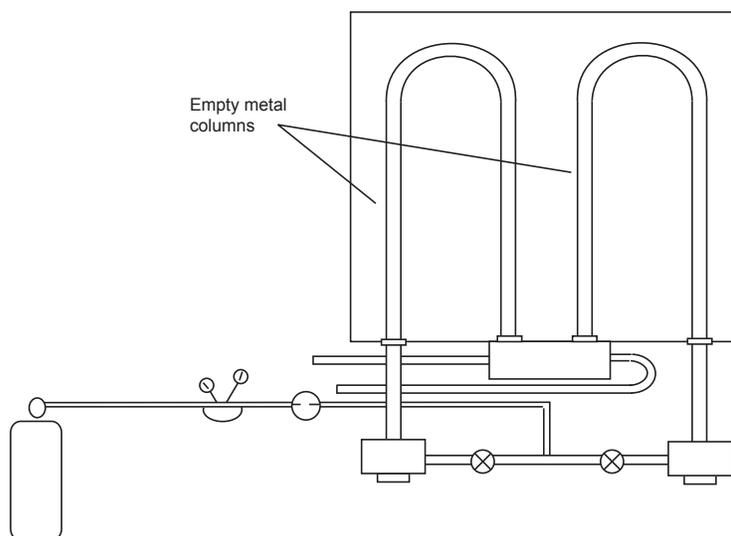

Figure 9-1
3. Replace columns with lengths of metal tubing (Figure 9-1).